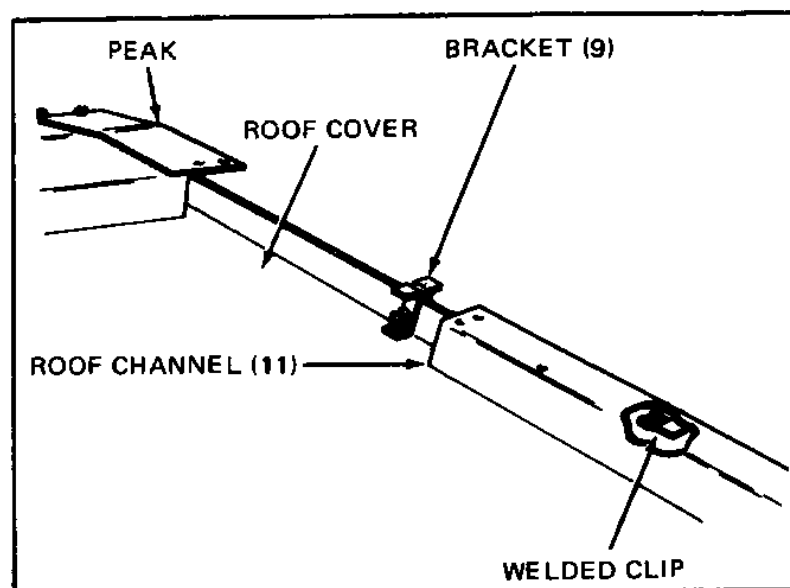
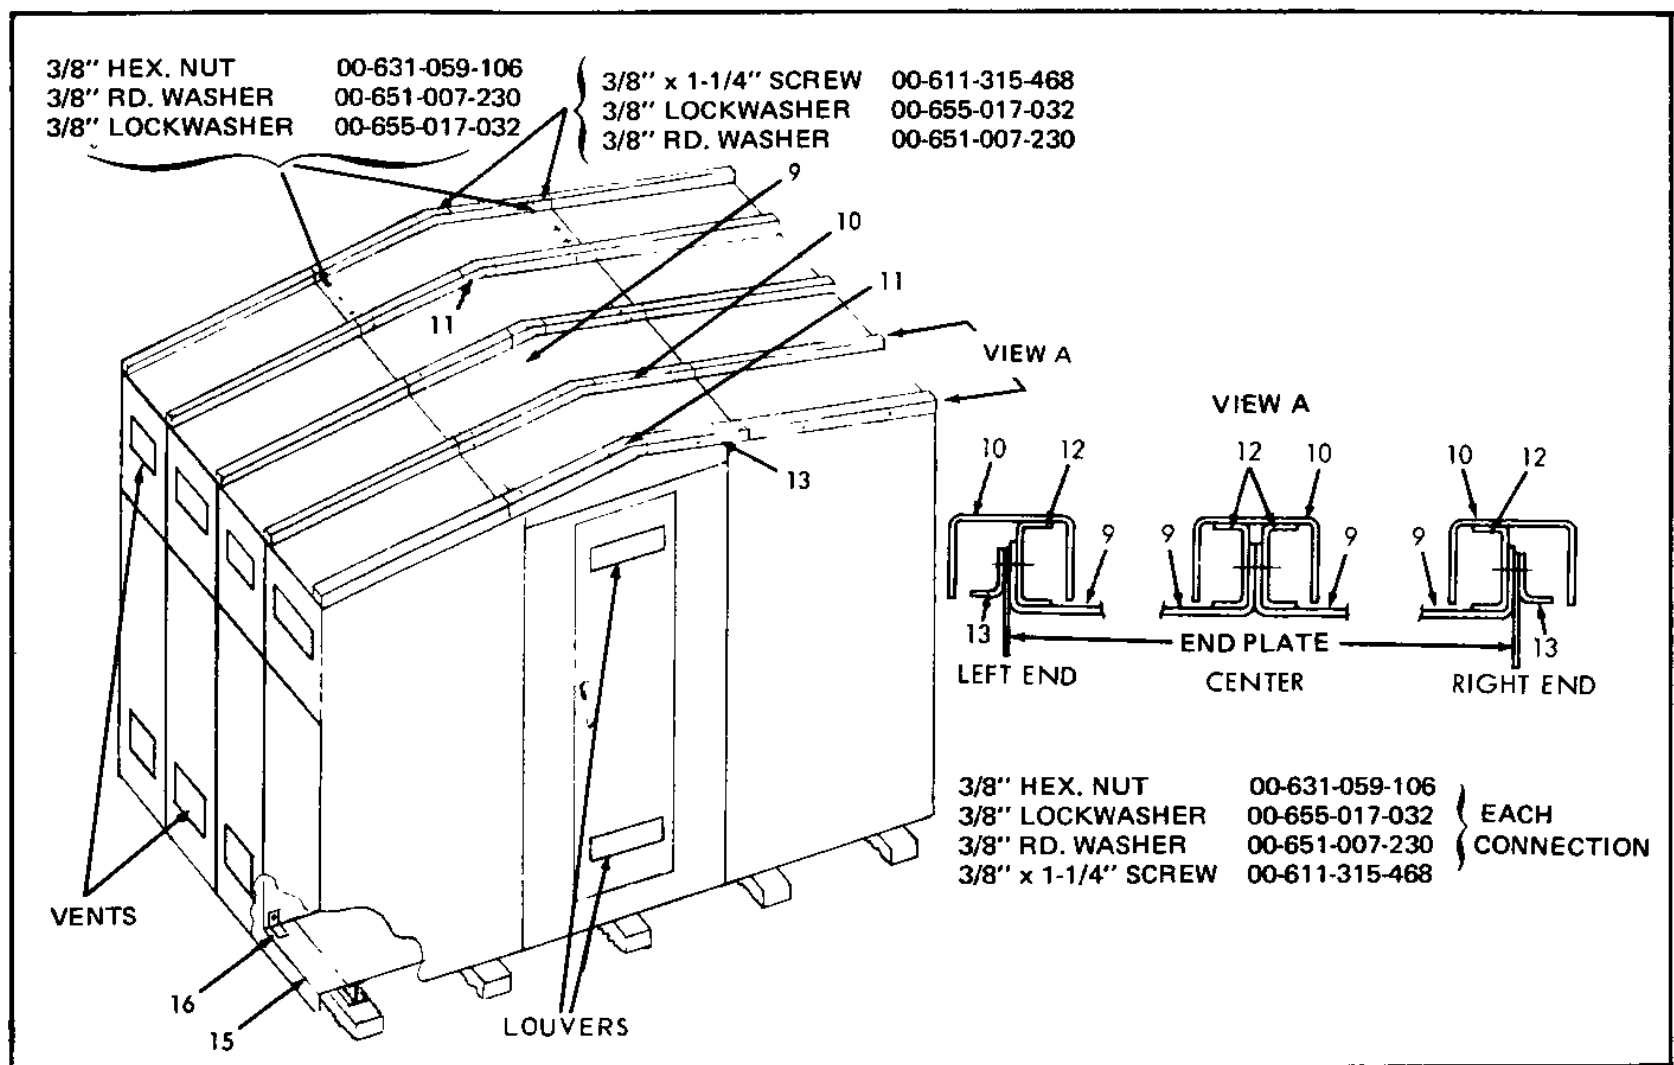

Figure 29. Roof Channel Installation - Single Aisle Layout
Figure 35. Roof Deck Installation - Common Aisle Layout
11. See Figure 29. Set roof channels (11) over roof cover joints. Slide the channel toward the roof peak until the clip inside the channel engages the bracket (9).
9. See Figure 35. Place roof decks (9) in position and fasten with the bolts provided.
10. Fasten roof decks together using bracket (12). See view "A".
12. Set channel-shaped covers (10) over the joints of roof decks and slide up the covers so the clips on the inner surface (See Figure 29) engage the brackets (12).
13. Bolt hoods (11) in place.
15. Drill cable cover (15) to suit conduit. Clamp the cover in place with angle (16).